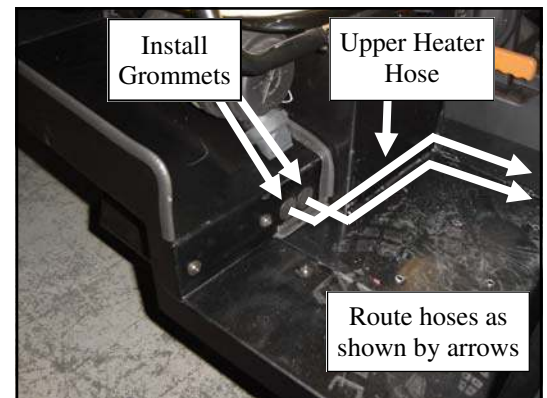

FIGURE 5.1
5.1. Remove plastic plugs from front right panel and install the supplied plastic snap in hose grommets in their place. (See Figure 5.1)
5.2. Route both sections of heater hose through these holes from the rear side, along the seat pan, against the center console, up the firewall, and around the front of the heater box to the nipples. (See Figure 5.1)
5.3. Attach the hoses to the nipples on the heater using small hose clamps with the hose coming through the outer hole on the cab panel going to the upper nipple. (See Figure 5.1 and 5.3) Pull the slack back through to the passenger compartment, leaving enough of a service loop under the hood to allow the hood to close easily, without kinking the hose.